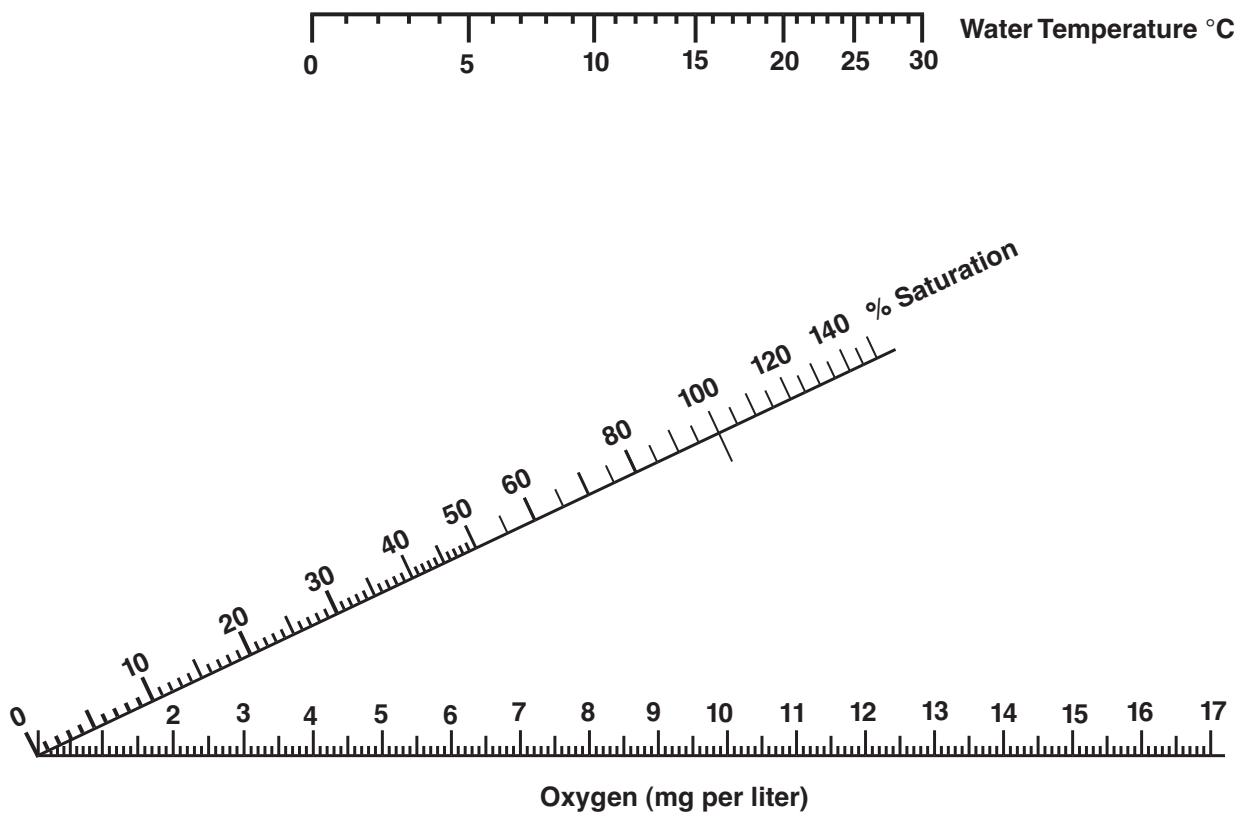

Figure 1: Nomograph of Oxygen Saturation
3. Rarely is water saturated with oxygen. Usually, the amount of DO in a water sample is only part of what the water could hold. You can estimate the percent saturation of the water samples with oxygen using the Class Averages for DO from Table 1 and the nomograph shown in Figure 1. Use a pencil to mark the temperature of the water on the top scale of the nomograph and the amount of dissolved oxygen on the bottom scale, then use a straightedge to draw a line connecting the two marks. Read the percent saturation from the middle scale of the nomograph. Record this number in Table 1.